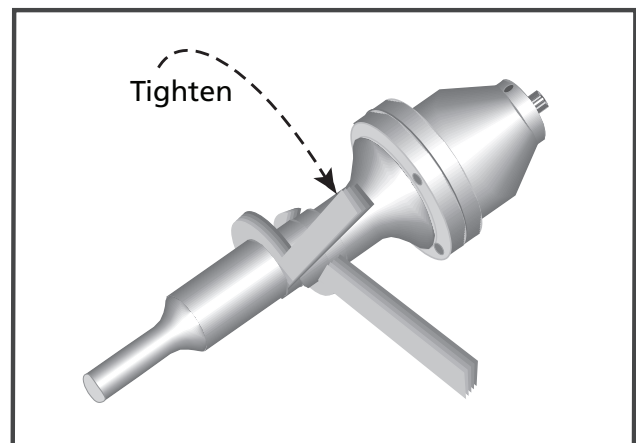

Figure 2-2 Stack Assembly Procedure
6. Thread the components together and tighten to the following torque specifications using only the correct size wrenches. Use spanner wrenches on components with spanner wrench holes or an open end wrench on components with wrench flats. See Figure 2-2 for the correct procedure. Refer to Table 2-III for torque unit conversions. Be careful not to overtighten.